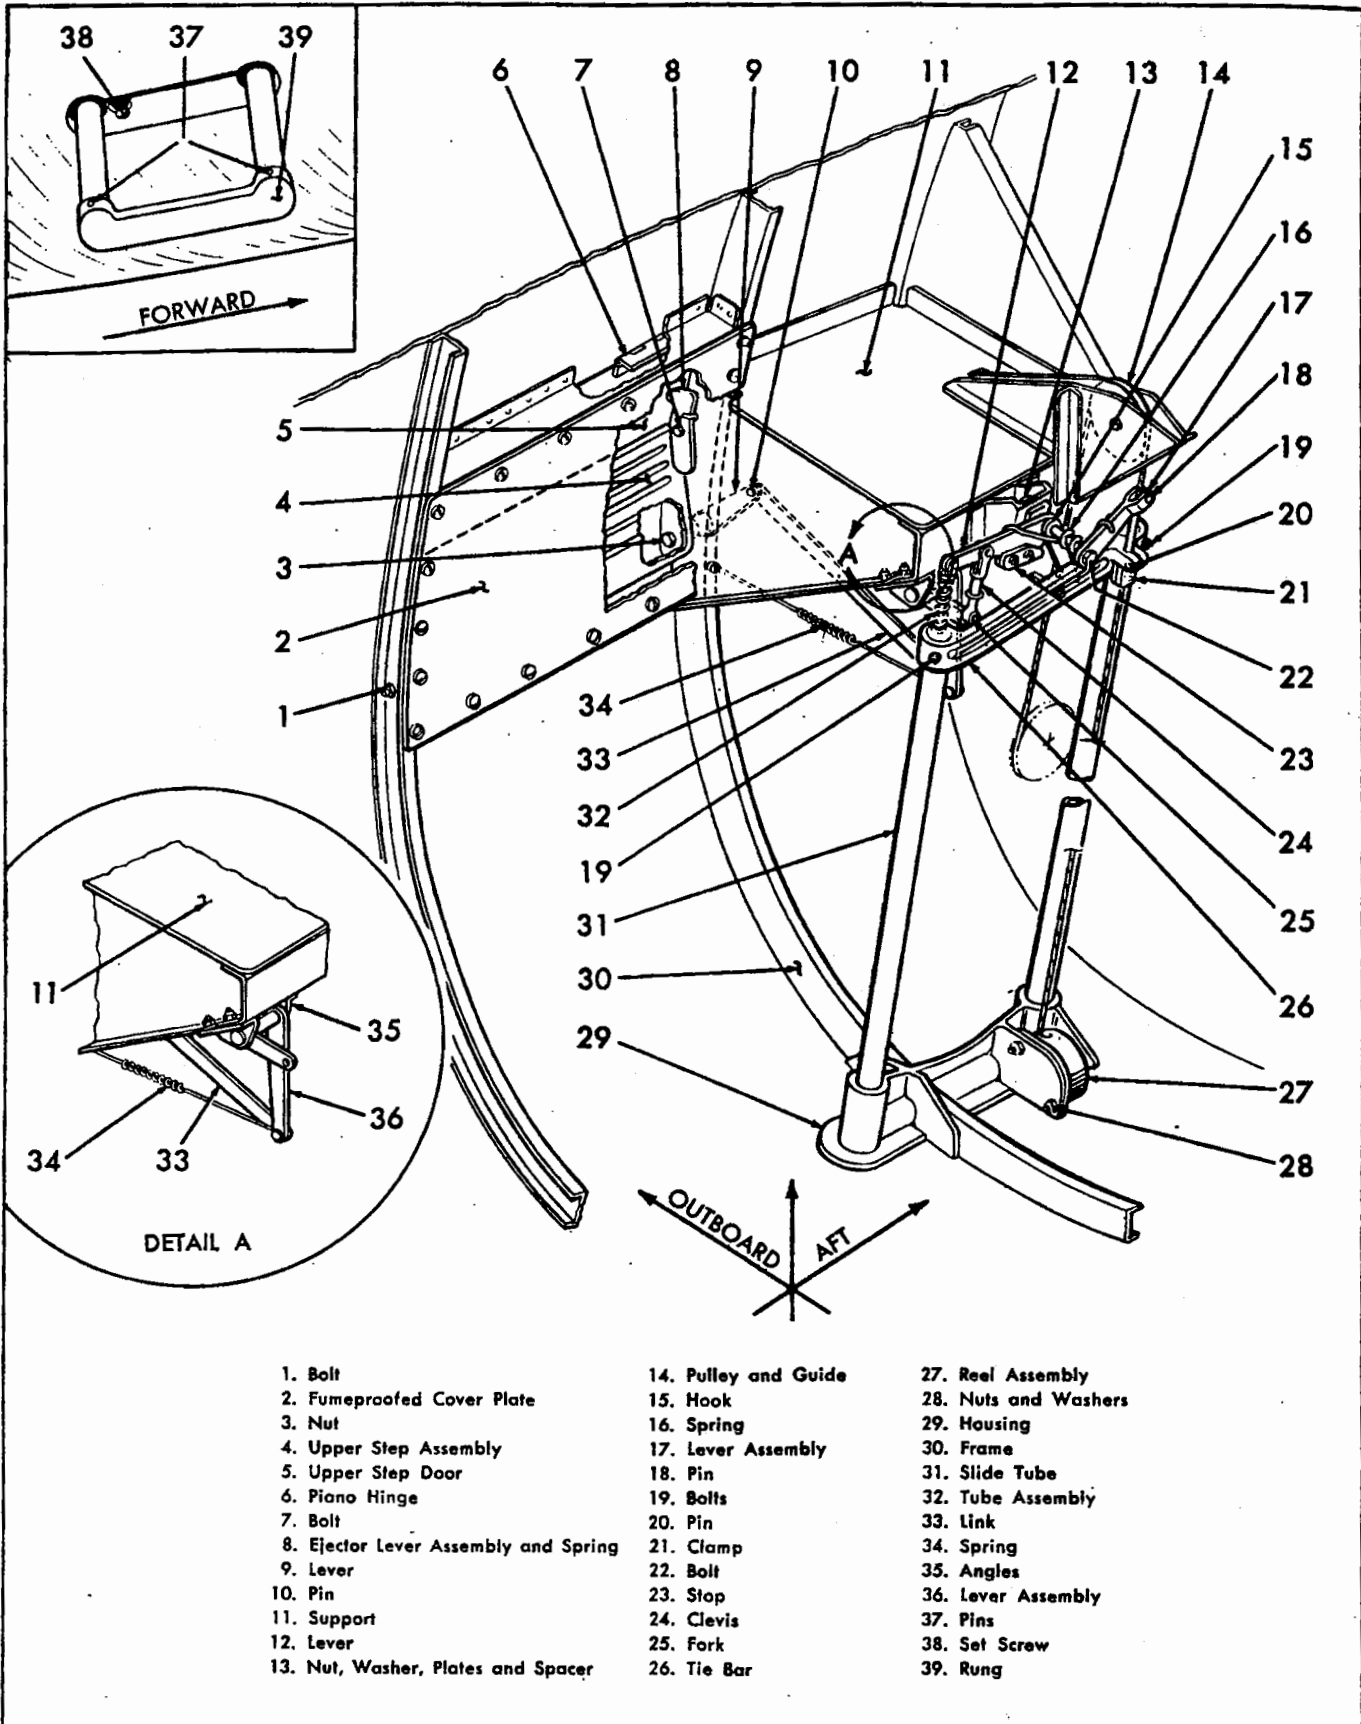

Figure 4-40. Cockpit Access Step Mechanism and Linkage.
f. Remove pulley (17) just forward of bulkhead 186 from bracket by removing bolt. Free cable from pulley. Access may be gained by removing pilot's seat (see paragraph 4-1543) and the canvas floor.
g. If necessary, disconnect pulley and guide (14) by removing bolt. Remove cable from pulley. (Refer to figure 4-40 for identification of callouts in steps g. through i.)
h. Remove pins (18), (20) from lever assembly (17) and from tie bar (26) in order to free cable.
i. Remove spring-loaded reel assembly (27) from housing (29) by removing two nuts and washers (28). Do not remove bolts. Replace nuts and washers after removing reel from housing to prevent accidental unloading of reel. Refer to paragraphs 4-274 and 4-275 for disassembly and loading of reel in case of jamming or fraying of the cable.
4-270. REMOVING UPPER STEP. (Parenthesized numbers refer to callouts on figure 4-40.)
4-271. REMOVING LINKAGE. (Parenthesized numbers refer to callouts on figure 4-40.)
4-272. REMOVING LOWER STEP. (Parenthesized numbers refer to callouts on figure 4-40.)
- a. Remove reel (27) from housing (29) by removing nuts and washers (28). (Refer to figure 4-40.)
- b. Remove bolts (2) from reel housing (3), holding housing and drum (9) firmly to prevent spring-loaded reel from unwinding during removal.
- d. Remove drum from housing by removing center bolt (1).
- e. Remove cable (5) from drum by disconnecting cable end plug (10).
4-278. INSTALLING LOWER STEP. (See figure 4-40.)
4-279. INSTALLING LINKAGE. (See figure 4-40.)
4-280. INSTALLING UPPER STEP. (See figure 4-40.)
4-281. INSTALLING FORWARD SECTION OF CABLE. (Refer to figure 4-40 except as noted.)
4-282. ADJUSTING. (See figure 4-40.)